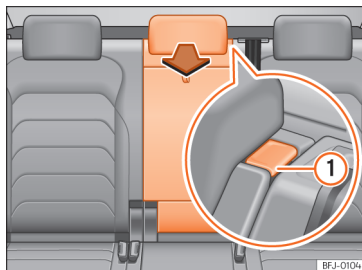

Fig. 207 Rear seat backrest: opening the tailboard for long objects.
- Press the unlocking button »» Fig. 207 ① and fold the tailboard forwards »» ⚠.